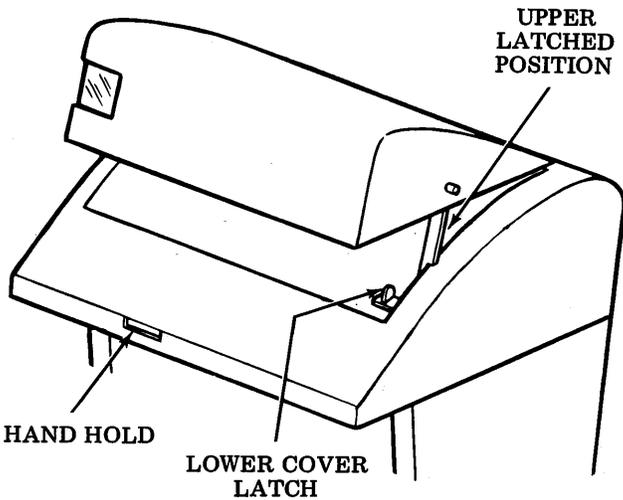

Figure 3 - Upper Cover Latched Open
- (b) Press the two upper cover latch release buttons, and open the upper cover to its latched position (Figure 3). Release the